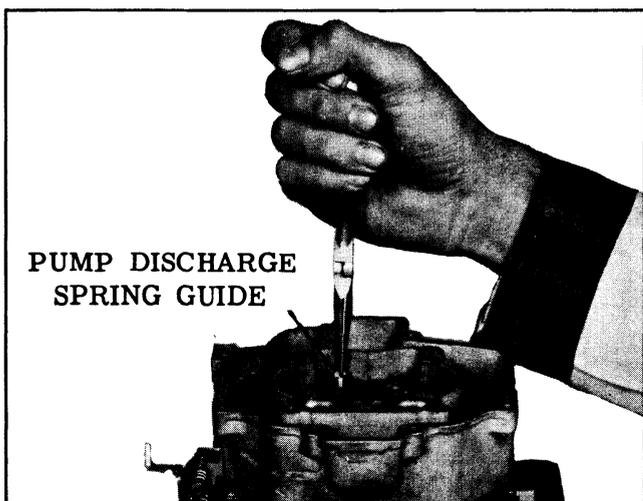

Fig. 8-129 Pump Discharge Spring Guide
4. Remove the pump discharge spring guide, (See Fig. 8-129) then remove the spring and steel ball check.